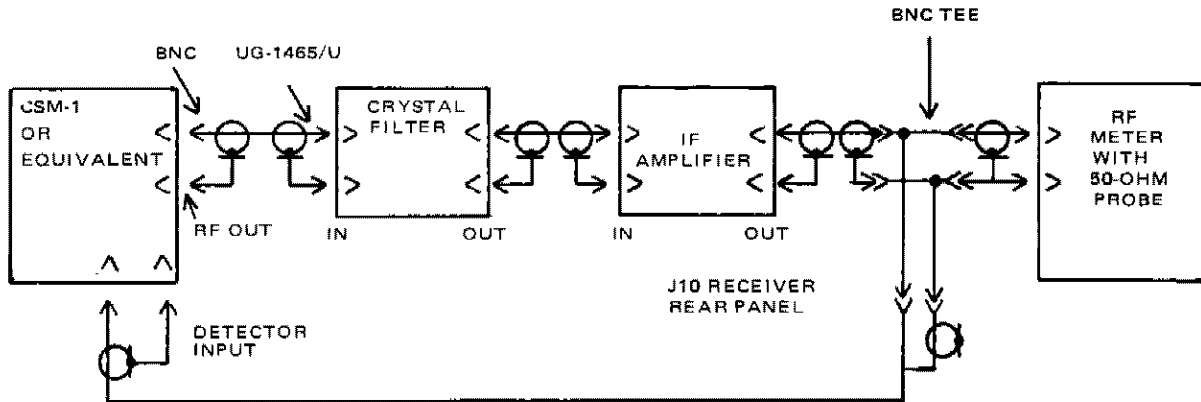
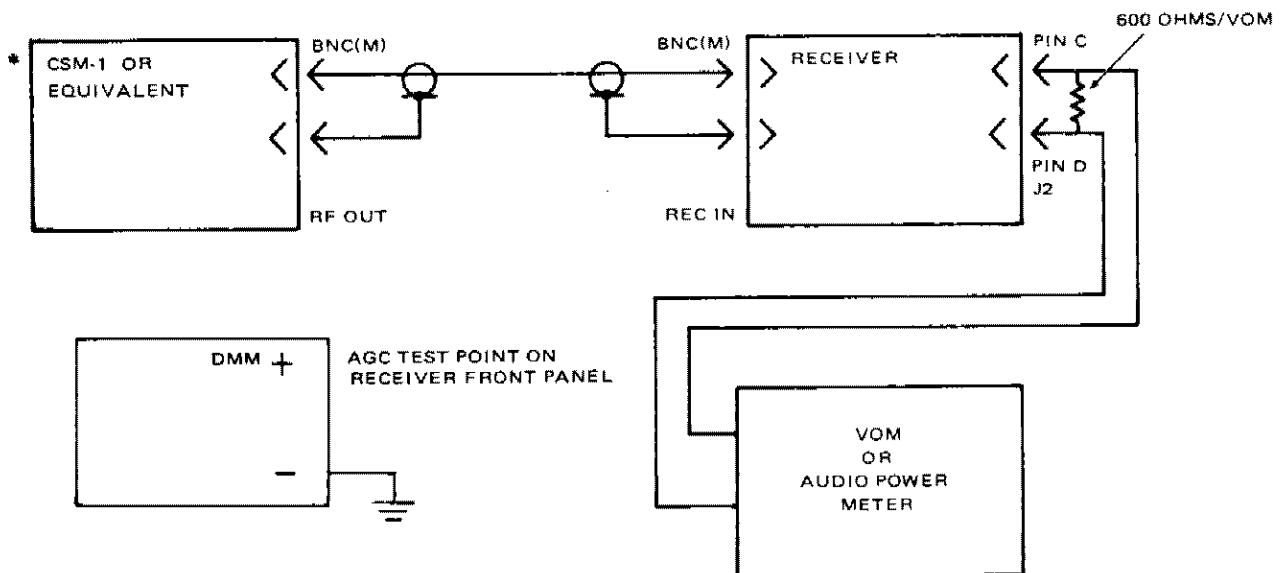
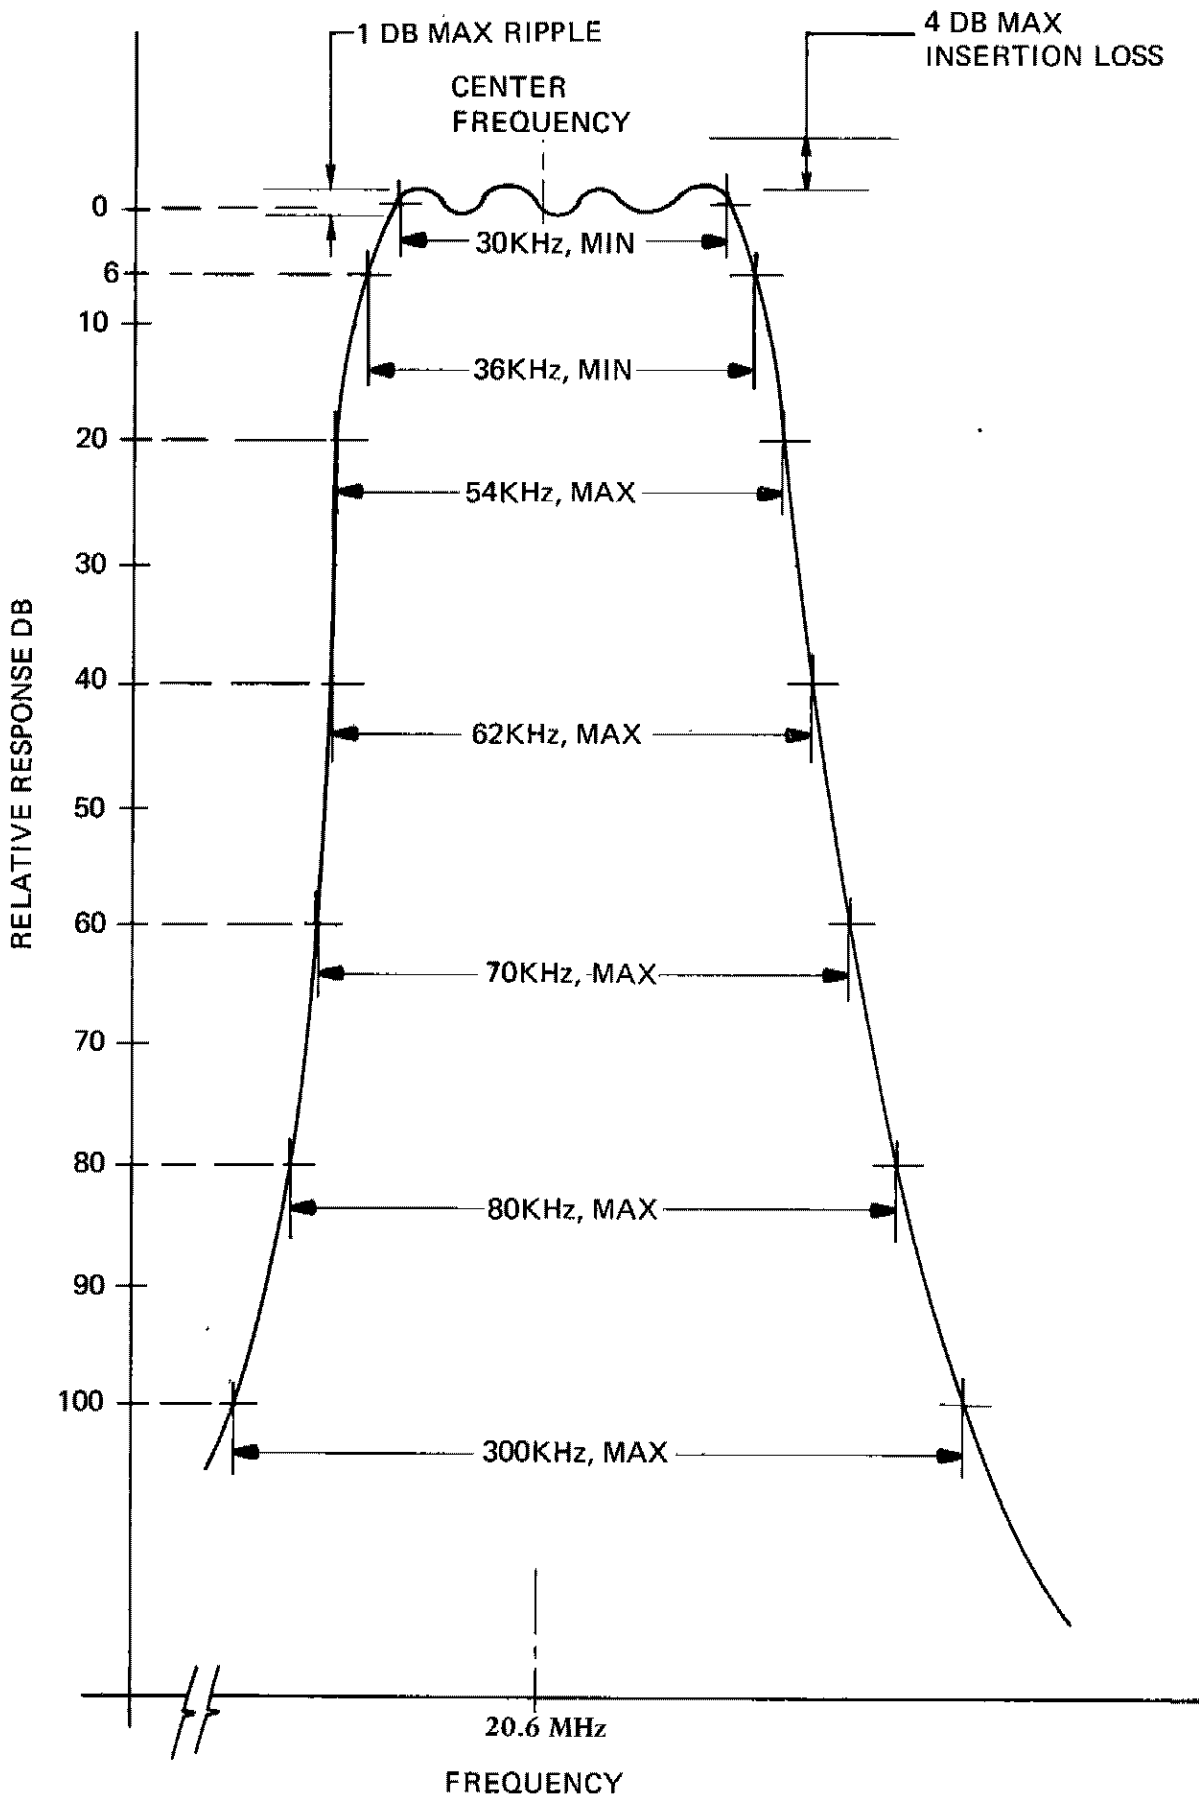

Figure 6-8. Test Setup for IF Amplifier and Crystal Filter
Figure 6-9. Test Setup for Selectivity
Figure 6-10. Bandpass Characteristics, 50 KHz Filter
- (2) If no transmission signal is available, connect the signal generator to a spare or unused antenna (see figure 6-9). Set the frequency dials to the receiver channel frequency, set output level to -98.0 dBm modulated at 1 kHz, 30% ±10%, and adjust the antenna trimmer for maximum on the VTVM or DMM.
- (1) Set FUNCTION switch to GENERATE position.
- (2) Set VERT MODE switch to DETECTOR.
- (3) Set SWEEP WIDTH ( $\Delta f$ ) control to fully clockwise.
- (4) Set AMPLITUDE MODULATION to OFF position and disconnect the input cable to crystal filter.
- (5) Vary the VERT POS, FOCUS, INTENSITY, HORIZ POS, and HORIZ GAIN controls to produce a trace on the VERTICAL SET line on the CRT graticule and for full scale deflection in horizontal.
- (6) Connect test equipment as shown in figure 6-8.
- (7) Set the 100 kHz frequency knob in the "V" position and set SWEEP MODE switch to LO position.
- (8) Turn SWEEP WIDTH ( $\Delta f$ ) control to ON position and adjust the 0-100 Hz control to center the waveform. Adjust the SWEEP RATE, HORIZONTAL SIZE, and VERT POS controls for desired display. Observe waveform for flatness and rolloff.
- (9) Vary the RF OUTPUT LEVEL switches to obtain the desired display amplitude.
- (10) Turn SWEEP WIDTH ( $\Delta f$ ) control to OFF position.
- (11) Shift the frequency up and down using the 0-100 Hz control while observing the trace position. When it is at the highest position, the frequency switches and 0-100 Hz control will indicate the frequency of the peak response. Record the trace position as reference.
- (12) Increase the generator level by 6 dB.
- (13) Adjust frequency controls above and below center frequency until line of graticule returns to the peak response reference line. Record both frequencies.
- (14) Compute the bandwidth at the 6 dB point by taking the difference between the upper and lower frequencies recorded in step (13). See figures 6-10 and 6-11 and tables 4-1 and 4-2.
- (15) Repeat steps 13 and 14 for 60 dB below peak response reference and record bandwidth. See figures 6-10 and 6-11, and tables 4-1 and 4-2.
- (16) This completes test. If the above requirements cannot be met check IF amplifier in accordance with 7.14.7; if OK replace filter. Perform tuning procedures 9.5.4 or 9.5.5 and 6.8 before restoring equipment to service.
**6.11 SELECTIVITY.**- The purpose of this procedure is to determine the ability of the receiver to reject unwanted signals at the receiver operating frequency. Figure 6-9 shows the test setup. Figures 6-10 and 6-11 show the bandpass characteristic curves for the 50 kHz and 25 kHz filters, respectively. Refer to section 4 for standards and tolerances.
- (3) Increase output of signal generator from the value obtained in step (2) above by 6 dB.
- (4) Tune signal generator above channel frequency by switching the 10 kHz control one division at a time until agc reference voltage found in step (2) is obtained. (When searching for reference level agc voltage, always use small frequency increments.)
- (5) Tune signal generator below channel frequency by changing the 100 kHz control one division down and increasing the 10 kHz control to the 9 position. From this point decrease the frequency in small increments until the agc reference voltage found in step (2) is obtained. Record this frequency.
- \* (6) Compute the bandwidth at the 6 dB point by taking the difference of the two frequencies obtained in steps (4) and (5). (See tables 1-1, 4-1, and 4-2, and Figures 6-10 and 6-11.)
- (7) Increase output of the generator from the value found in step (2) by 60 dB.
- (8) Repeat step (5) and record frequency.
- (9) Repeat step (6) and record frequency.
- \* (10) Compute the bandwidth at 60 dB point by taking the difference of the two frequencies obtained in steps (8) and (9). (See tables 1-1, 4-1, and 4-2, and Figures 6-10 and 6-11)
Crystal frequency must be within tolerance (0.001%) to compute non-symmetry at 60 dB point. Particular combinations of receiver bandwidth and measurement frequency may present difficulty in reaching the reference level in step (10) due to generator and/or receiver spurious responses. If this is suspected, the measurement may be facilitated by switching the 100 kHz decade switch to V and using the 0-100 Hz dial in the continuously variable "search" mode (spurious output is reduced when the 100 kHz decade is in the V position). Once the approximate tuning point has been found, successively move the V to the right until it is in the 100 Hz decade. If the 60 dB point still cannot be reached by tuning carefully down the steep skirt of the selectivity curve (see figures 6-10 and 6-11) as described then it may be necessary to perform the measurement at -50 dB or -40 dB and record it as such.
(11) Compute the non-symmetry at the 60-dB point.